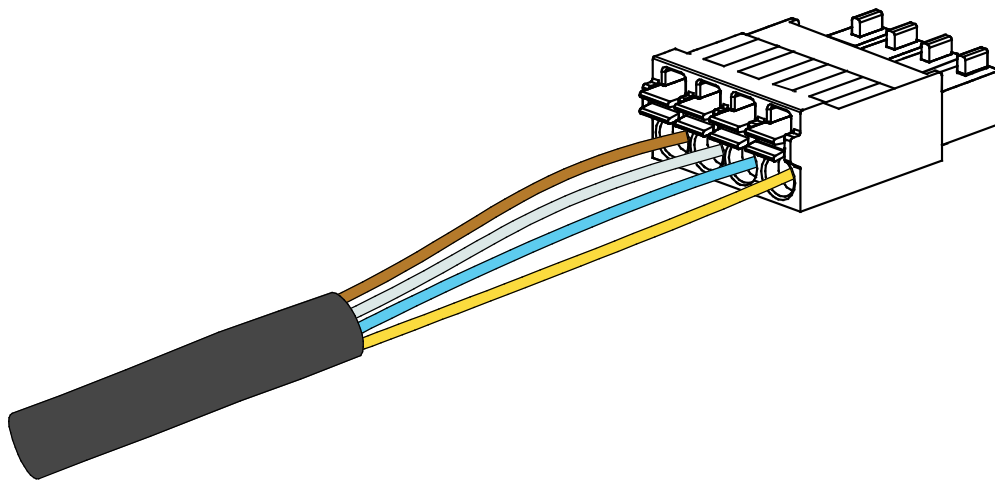

Figure 34: Communication Connector Wiring
8. On each end of the 4-conductor communication cable, strip and insert the wires into the provided 4-pin Phoenix connectors according to the following table and diagram (Fig. 34). On the Powerwall side, use the black Phoenix connector.